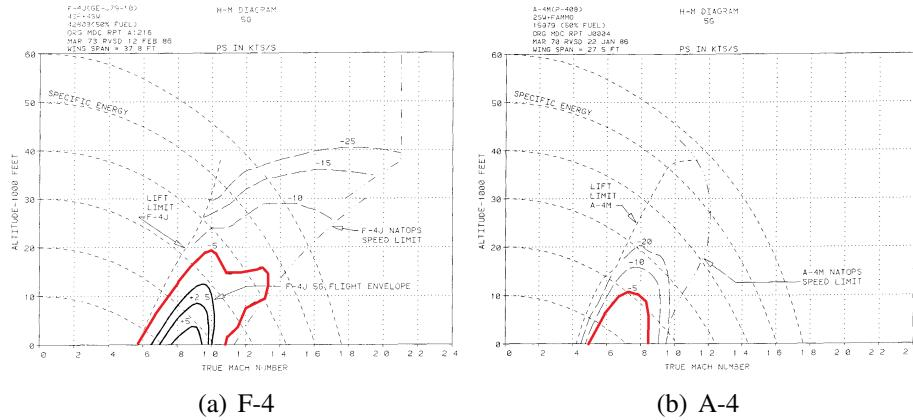

Figure 77: H-M and specific energy plots for A-4 and F-4
9. Figure 77 shows H-M diagrams for the F-4 and A-4. The A-4 famously appeared in *Top Gun* and the F-4 has performance somewhat comparable but likely slightly inferior to the F-14. Compare and contrast the performance of both aircraft.